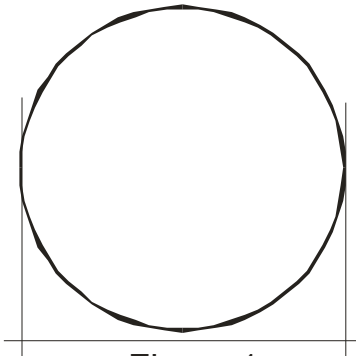

Figure 1
1. Mark an outline on the floor of the location desired. This is to assure that you have adequate space. Refer to Fig. 1, pg. 6.